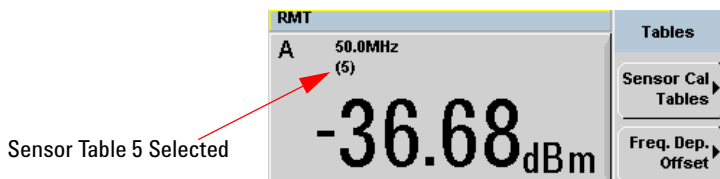

Figure 5-7 Frequency dependent offset indicator
- 3 Press **Done** to complete the selection of the calibration factor table. Figure 5-7 shows which offset table is selected.